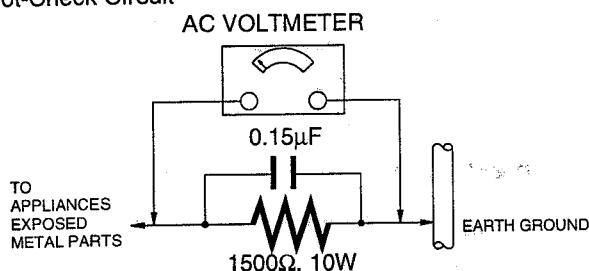

Figure 1
LEAKAGE CURRENT HOT CHECK (See figure 1.)
- Connect a 1.5K ohm, 10 watts resistor, in parallel with a 0.15 microfarad capacitor, between each exposed metallic part on the set and a good earth ground, as shown in figure 1.